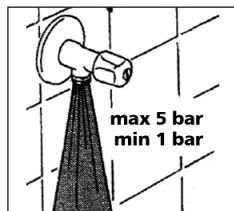

Fig. 1.
d) The main water pressure must not fall below 1 bar. (14 PSI) or above 5 bar. (70 PSI). If pressure is above 5 bar, a pressure regulator should be fitted to the water supply of the machine (Fig. 1).